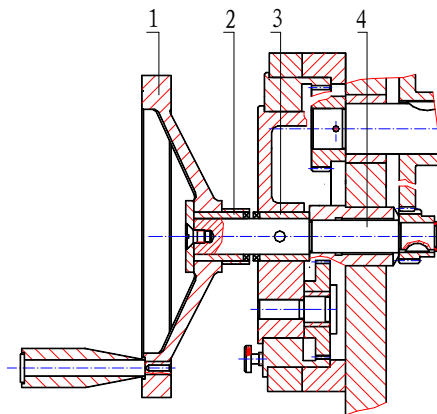

Fig. 27 Structure of couple of handle wheel
The handwheel (1) for longitudinal rapid moving of the carriage is fixed on the shaft sleeve (2) with tooth coupler on its end and the right shaft sleeve (3) with coupler on the shaft (4). When pull the handwheel toward inner, the coupler engages on, thus, turning the handwheel can make the apron moving left and right. If pull the handle outside, the coupler unengaged, the handwheel separates. In this time, engage automatic feed or rapid moving, the handwheel cannot be driven with the shaft 4, thus, although the handwheel and the handle mounted on it are under rotating status, they cannot injury people (see Fig. 27).